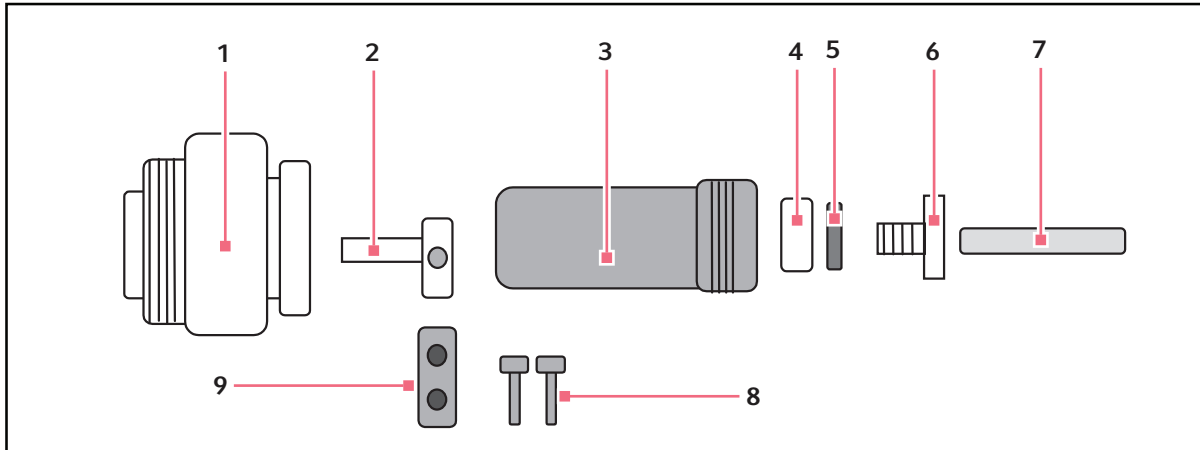

Fig. 8-6: Internal AC Moisture-Proof Plug
The AC socket (see Fig. 8-6 on p. 69), with cover and mating plug (supplied) is designed to be used in humid environments. To use the socket, you have to connect the special male plug (supplied with the unit) to the equipment that you use in the Innova 42/42R. If your equipment has a detachable power cord, you may want to obtain a different power cord to be used solely with the Innova 42/42R shaker.
1. Connect the power cord to the electrical plug. Slide the power cord through the plastic nut, washer, rubber grommet and the main body (see Fig. 8-6 on p. 69).